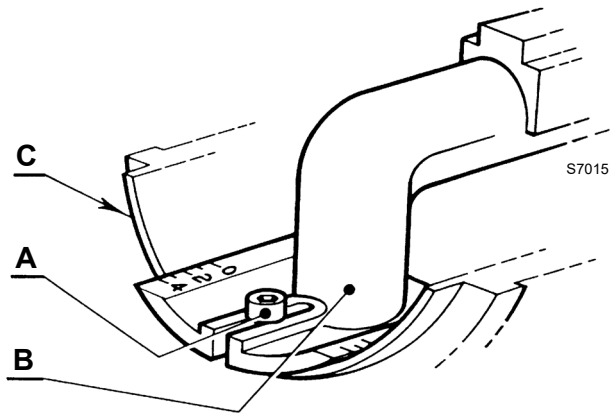

Fig. 15
- loosen the screw A) (Fig. 15), move the elbow B) so that the rear plate of the coupling (C) coincides with the set point;